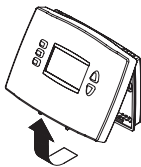

Figure 1
- 2) Separate the thermostat from the wallplate as per Figure 1.